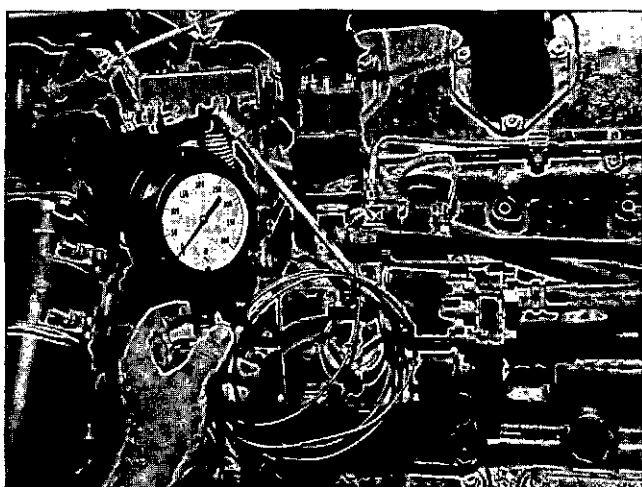

Fig. 14-2-6, F5203. Checking fuel manifold pressure with ST-435
b. To take "snap" pressure readings, attach the ST-435 pressure gauge at the shut-down valve in the usual manner. Fig. 14-2-6.